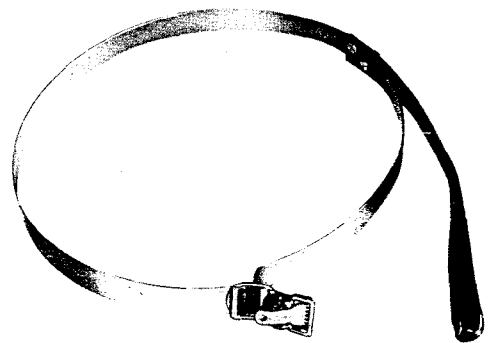

Fig. 2—Hose Clamp Assembly
2.02 This hose is made of bright yellow, vinyl-coated, fiberglass fabric stitched over a helical coil of spring steel wire to prevent the hose from collapsing and restricting air flow. A black vinyl scuff strip is stitched to the outside of the hose as added covering for the helical spring. This scuff strip protects the hose against abrasive wear. Each cuff of the hose is equipped with a hose clamp assembly. (Fig. 2).